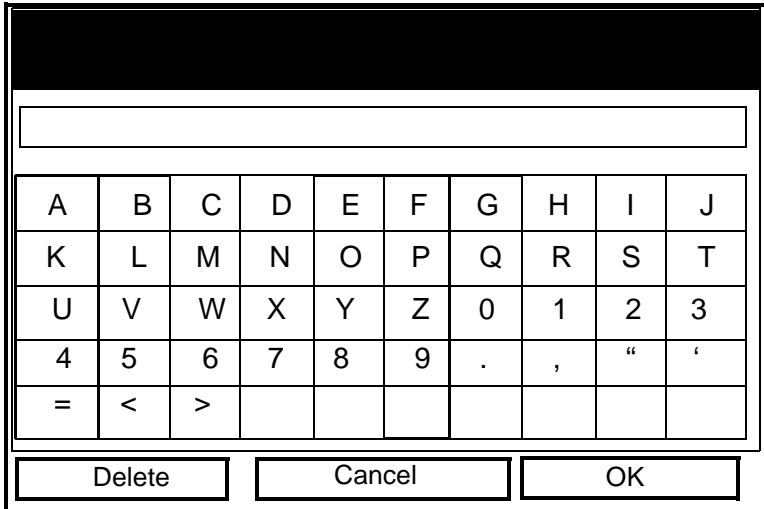

Figure 4-22: The Text Creation Window
- a. Press [ENTER] to open the text creation window, which appears similar to Figure 4-22 below.